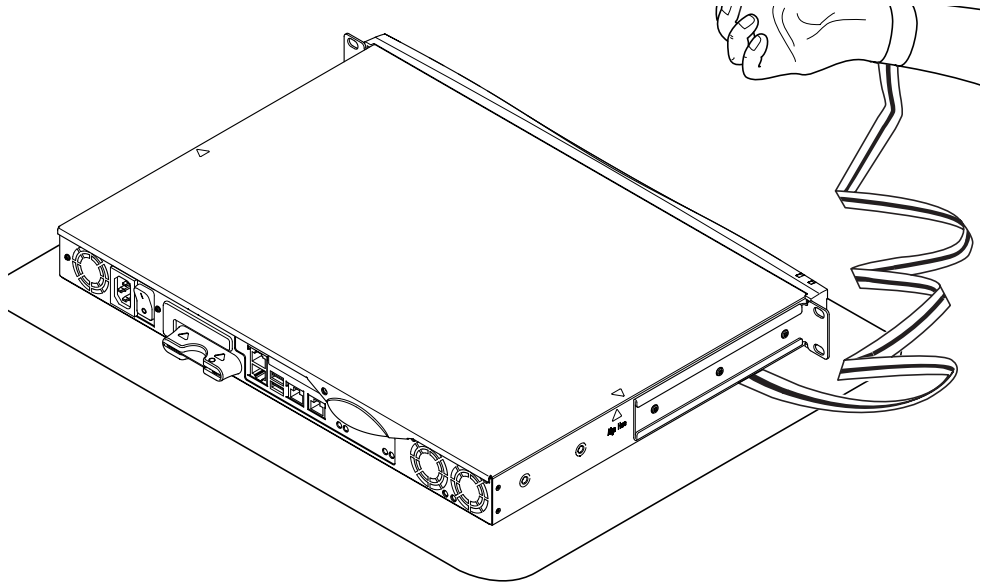

FIGURE 10-2 Using the Disposable Antistatic Wrist Strap Supplied With the System
Caution – The system contains electronic parts that are extremely sensitive to static electricity. Do not touch any metal parts. Place the system on top of an electrostatic discharge (ESD) pad (see FIGURE 10-2). Use the disposable antistatic wrist strap supplied with the system, and attach it to the metal base of the system before touching any of the internal components.
1. Place the unit on an ESD surface and attach an antistatic wrist strap (see FIGURE 10-2).
1. **Place the unit on an ESD surface and attach an antistatic wrist strap (see FIGURE 10-2)**
1. **Place the unit on an ESD surface and attach an antistatic wrist strap (see FIGURE 10-2).**